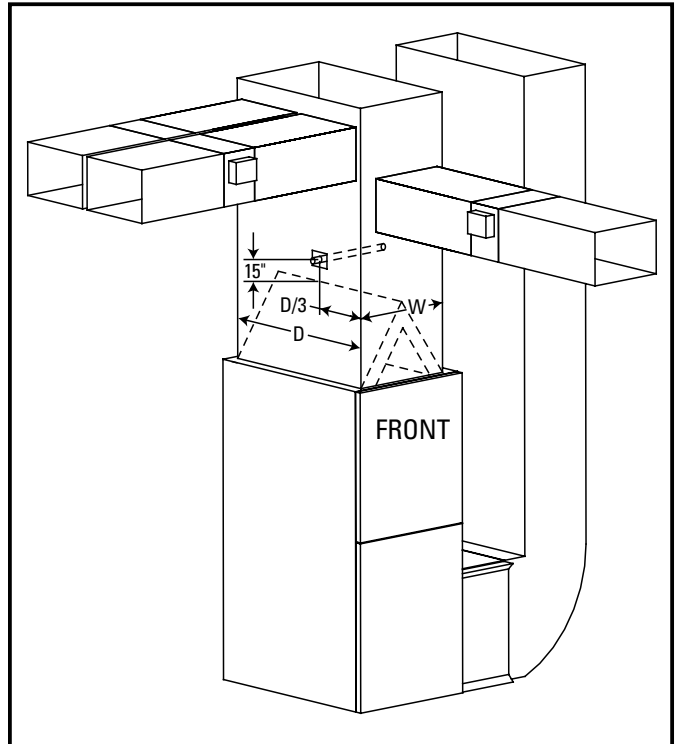

FIGURE 3 – DISCHARGE AIR SENSOR LOCATION
- Be sure that the tip of the sensor is located at least 15 inches downstream from the leaving air side of the evaporator in the discharge plenum, and $D/3$ of the depth ($D/3$) of the plenum (D) from the front of the plenum (the front is the side with the furnace or CB access doors), and centered side to side. Move the adjustable bracket along the length of the discharge air sensor to achieve proper sensor tip location (tip of sensor to be located at $W \div 2$). The sensor can be inserted from any side of the plenum, as long as the tip of the sensor is in the correct position. See **Figure 3**.